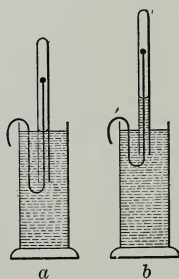

Fig. 5.
(B) 1. Place a graduated tube mouth downward in a dish of water, adjusting it so that the water within and without the tube stands at the same level. (See Fig. 5 a.)
4. Allow the apparatus to stand until the water ceases to rise (Fig. 5 b), then lower the graduate until the water within and without again stands at the same level.